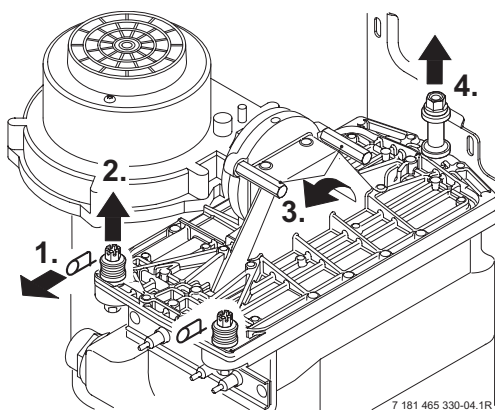

Fig. 50
- ▶ Remove the clips (1.) and unscrew the two bolts (2.). Refer to fig. 50.